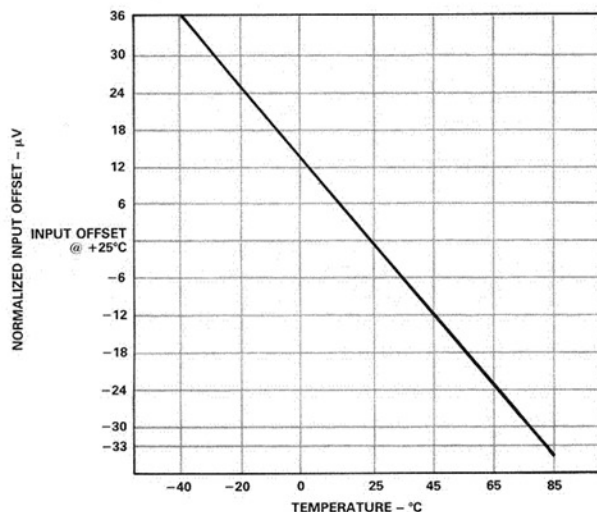

Figure 11. Normalized Input Offset Voltage ( $\mu$ V) vs. Temperature (°C), with  $V_S = 15$  V pk-pk, 25 kHz Square Wave
**Input Offset Voltage.** The AD208 exhibits an extremely low input offset voltage temperature coefficient over the -40°C to +85°C temperature range as indicated in Figure 11.